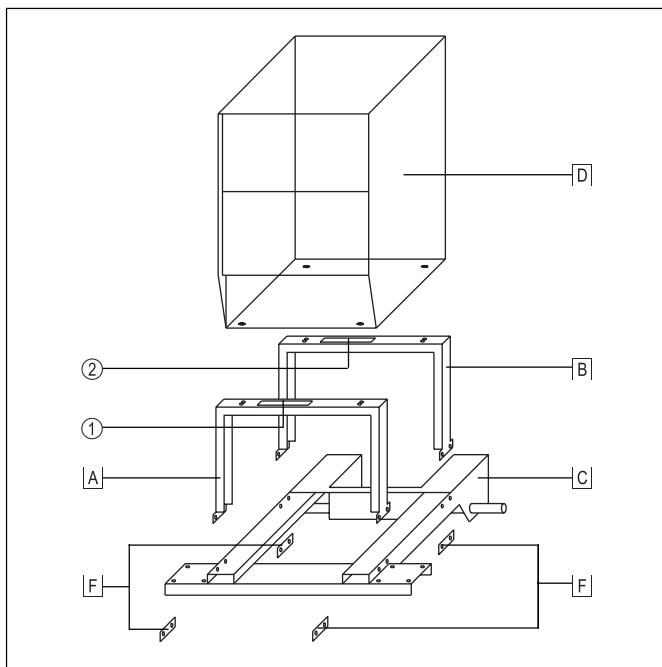

Fig.14 Assembling the power source
- Fit mounting brackets **A** and **B** down onto the trolley frame **C** so that the openings **①** and **②** in both mounting brackets are at the top left
- Insert the fastening plates **F** (complete with pre-mounted nuts) from the rear, as shown in Fig. 14, and screw on loosely using M8 x 20 steel screws with washers and retaining rings.